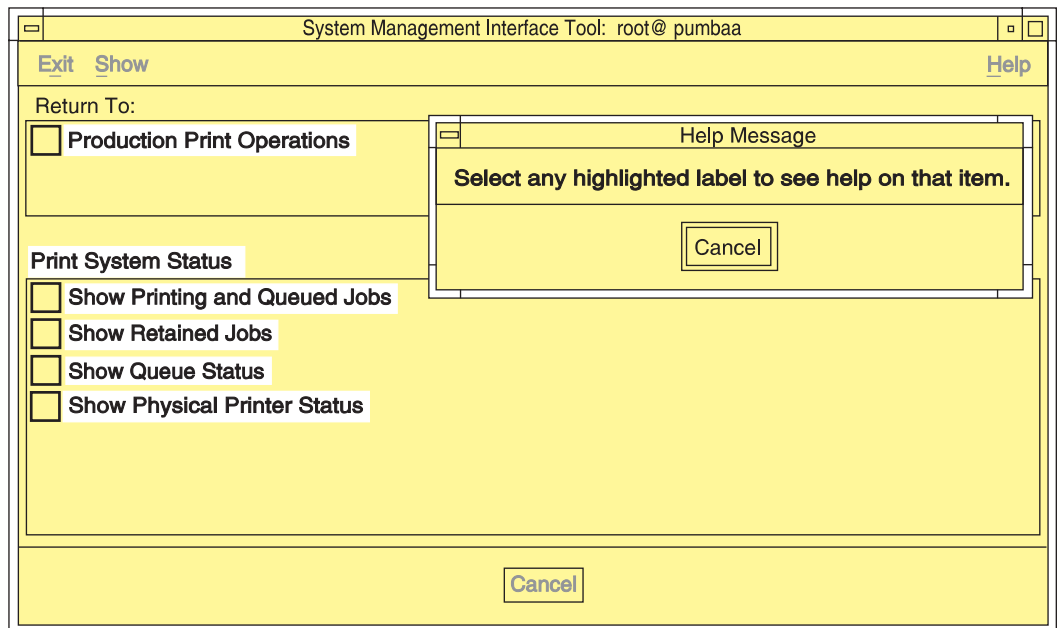

Figure 44. Help for SMIT Panel Menu Selections
1. Press **Ctrl + F1**. All the menu selections on the panel are highlighted. The mouse pointer changes to a question mark. A **Help Message** window opens with instructions on how to access help. Figure 44 shows an example of the results of pressing **Ctrl + F1** for a SMIT panel.